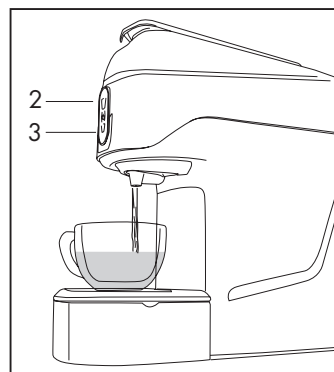

Fig.5
- The symbols (2-3) will flash intermittently until the temperature is reached; when the symbols (2-3) are lit with a fixed light the machine is ready for use. Place a cup on the grid, then press the dispensing symbols (2-3), depending on the model, the machine, dispenses water (**Fig. 5**); press the symbol again when the desired amount of water has been reached. The rinsing operation is ended when at least three cups of water have been dispensed.